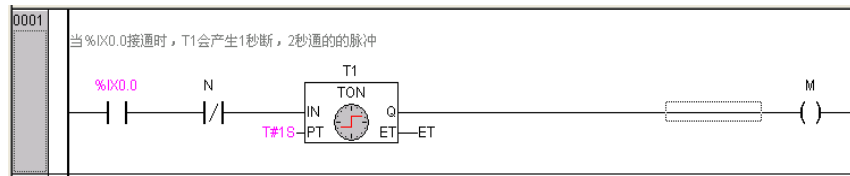

Figure 3-6-15 Programming Step (15)
- Double click “Comment” to enter the detailed comments, as shown in figure 3-6-15.